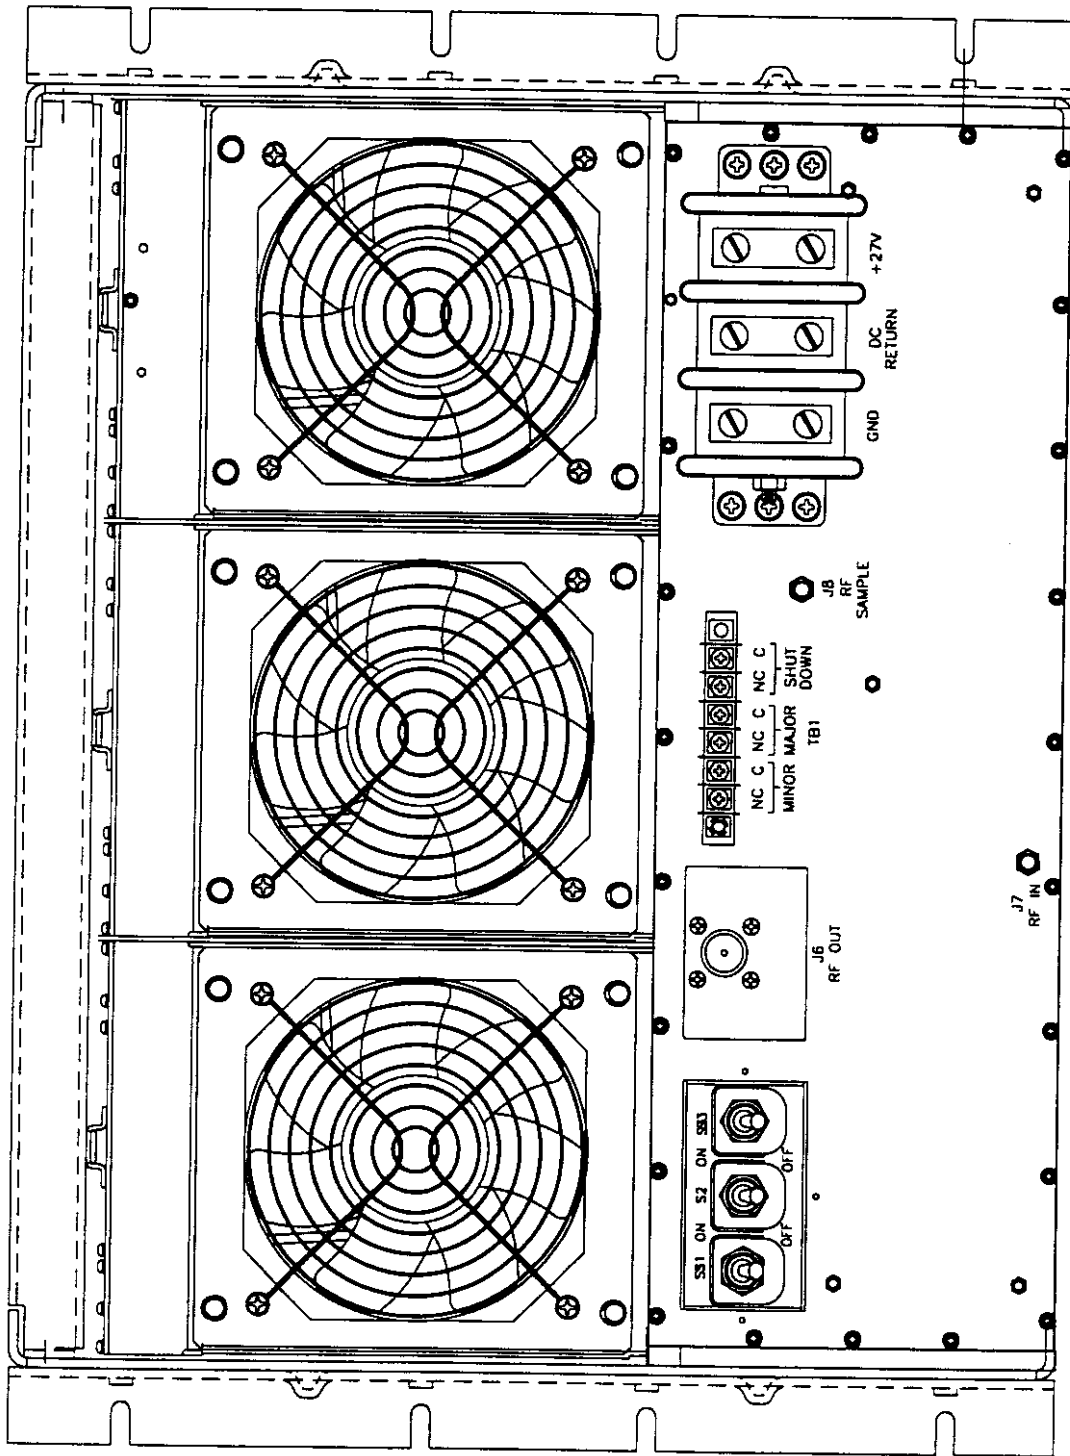

Figure 3-1. MCR3100 with Three Amplifier Units, Rear View
2. Refer to figures 3-1 and 3-2 for the location of all subrack input/output connectors and figures 1-3 and 1-4 for 24-way combiner connectors.
The amplifier system subracks are rack mountable chassis. The location and function of the system interface connectors and circuit breakers are shown in figures 3-1, 3-2, and 3-3, and are described in tables 3-1 and 3-2. The plug-in amplifier module controls and indicators, are shown in figure 3-4 and are described in detail in table 3-3.